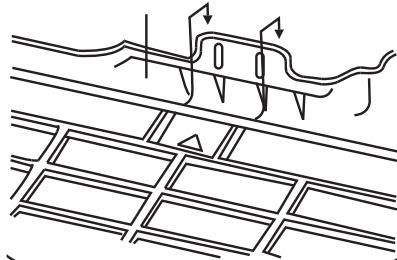

Fig. 14 - Hanging Indoor Unit
4. Hang indoor unit on upper hooks of wall mounting plate (as shown in Fig. 14 and Fig. 17).